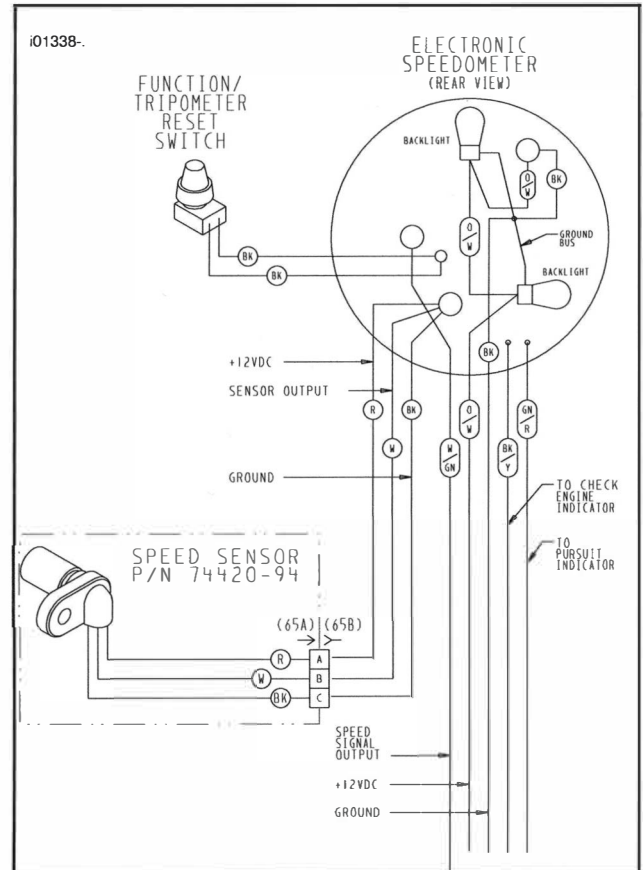

Figure 1. Cutting Wires At Old Speedometer
2. See Figure 1 and 2. Cut all leads connected to speedometer as close to speedometer as possible; except reset switch leads. A new switch with wires connected to speedometer connector is provided.